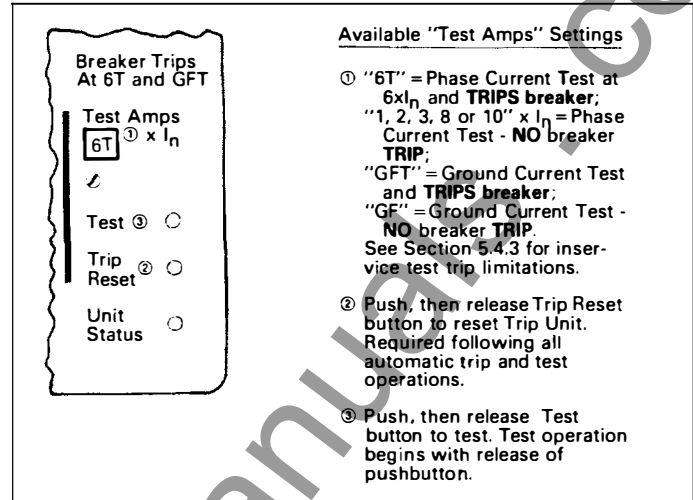

Fig. 5 Integral Test Panel (Lower Right Corner of Trip Unit)
As indicated in Fig. 5, six different “Test Amps” settings (1, 2, 3, 6T, 8 and 10X I_n) are available for testing the phase elements of the trip unit, and two (GF, GFT) are provided for testing the ground elements.
1. Place the "Test Amps" selector switch (See Fig. 5) in one of the six "No Trip" test settings, i.e., 1, 2, 3, 8, or 10, x I_n , or GF.
2. Place the "Test Amps" selector switch (See Fig. 5) in one of the two "Trip" test settings, i.e., 6T or GFT.
3. Depress the black "Test" pushbutton (See Fig. 5) and release it - the test is initiated when the pushbutton is released.
5. Reset the trip unit by depressing and releasing the "Trip Reset" pushbutton (See Fig. 5). All LEDs lighted by the "Trip" test action should turn "OFF".